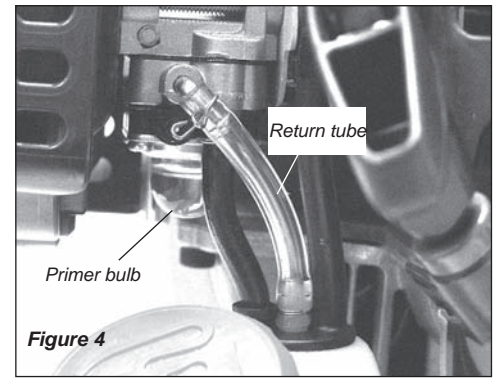

Figure 4
2. Press the primer bulb until fuel can be seen flowing in the transparent return tube. See Figure 4.